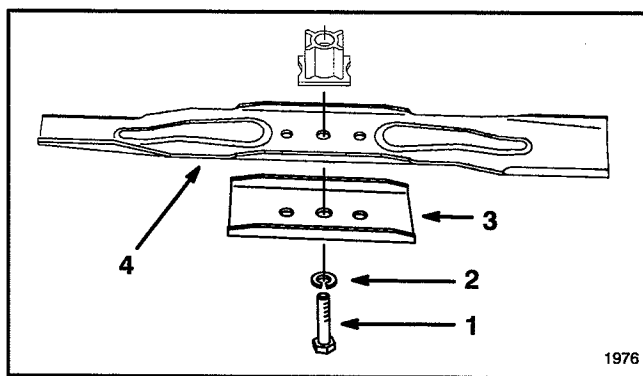

Figure 22
5. REMOVING BLADE—Grasp end of blade using a rag or thickly padded glove. Remove blade bolt, lock washer, blade and blade stiffener (Fig. 22).